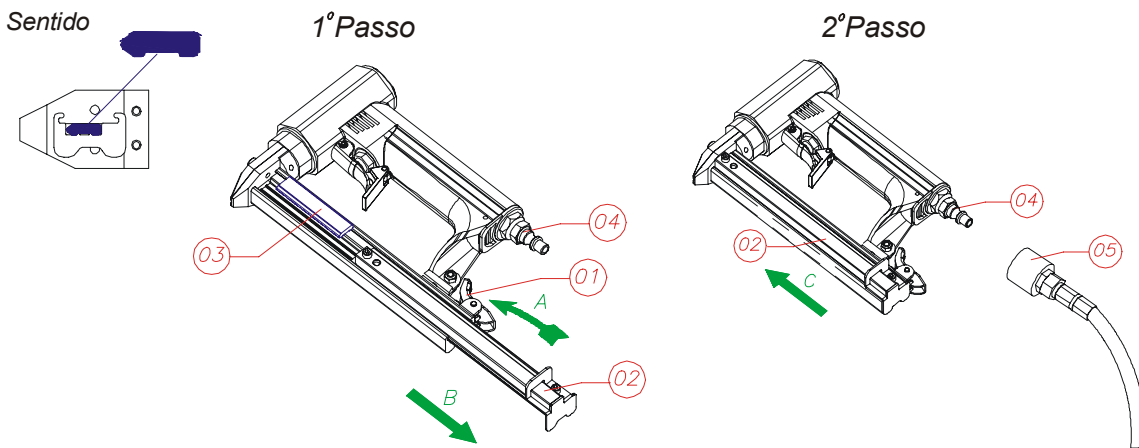
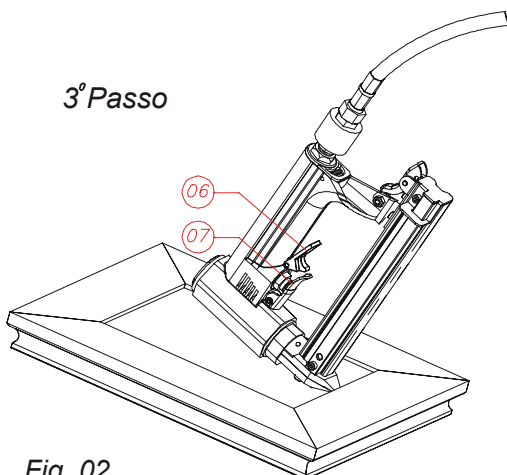

Fig. 01
Fig. 02
Para a operação da sua **PISTOLA INMES FI-140 P**, observar os passos na fig. 01 e fig.02 .
Observadas as recomendações acima, sua pistola já esta pronta para trabalhar, observe o 3° passo fig. 02 e veja como é fácil aplicar **flexipontas® "SS" INMES** em seu quadro ou porta retrato:
1. First of all load the Air Gun, by releasing the magazine latch and slide its cover all the way open fig. 01 (02) proceeding the following way: press the latch of the magazine fig. 01 (01) in the way of the narrow "A" and pull the cover of the magazine fig.01 (02) in the way of narrow "B" so right after that load the magazine with one or two strips of flex points SS Inmes fig. 01 (03) and push on the end cap to close and latch the cover.
2. Place the Flex with the glue side down and the sharp end of the points faced to the nose of the gun as figure 01;
4. Right after loading the magazine connect the Air Gun to the air supply fig. 01 (05) hose with the regulator set between 06 bar;
As soon as you accomplish all these procedures mentioned above, you're ready to work, observe the third step Fig. 02 and look how easy is to insert the Flex Point SS INMES into the frame or photo frame.